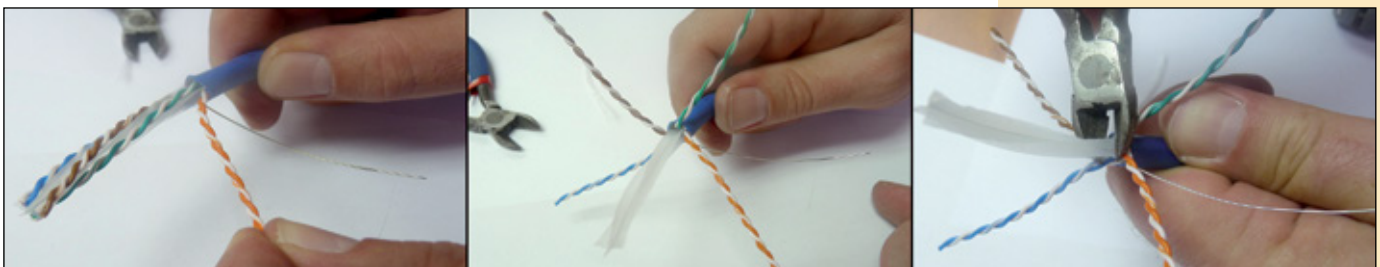

Figure 7
- 6 Please separate the copper conductor pairs and cut the plastic separator as shown in **Figure 7**.